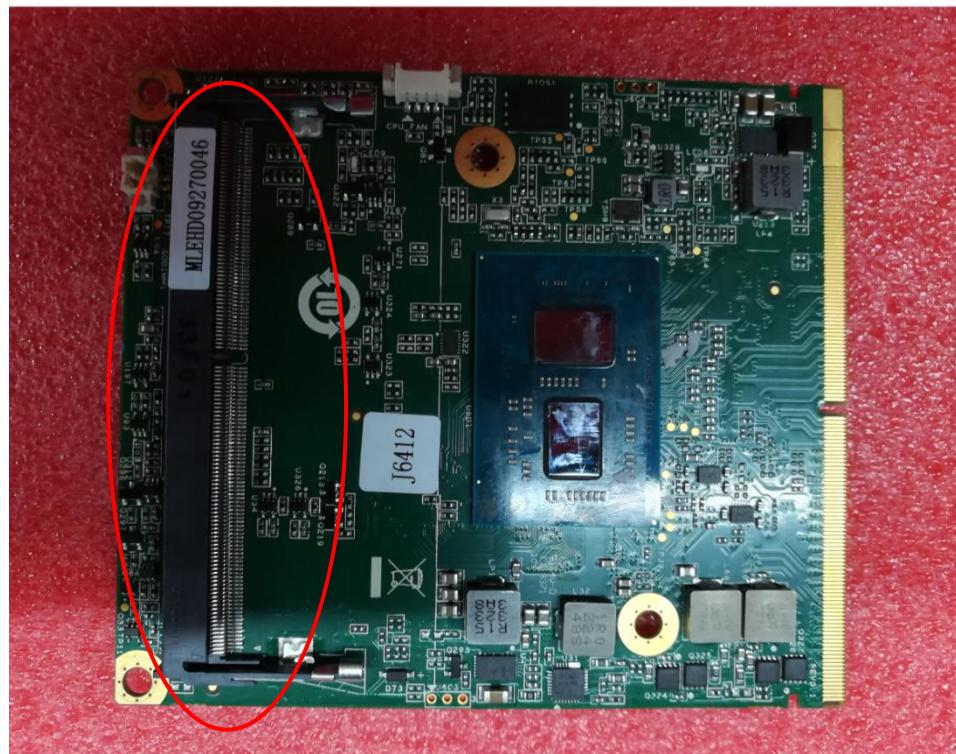

Figure 2.22
Step 5: As shown in Figure 2.22, the mainboard is the MXM-I719 module of the NOde series. Open the latch in the red area to replace another type of memory module.